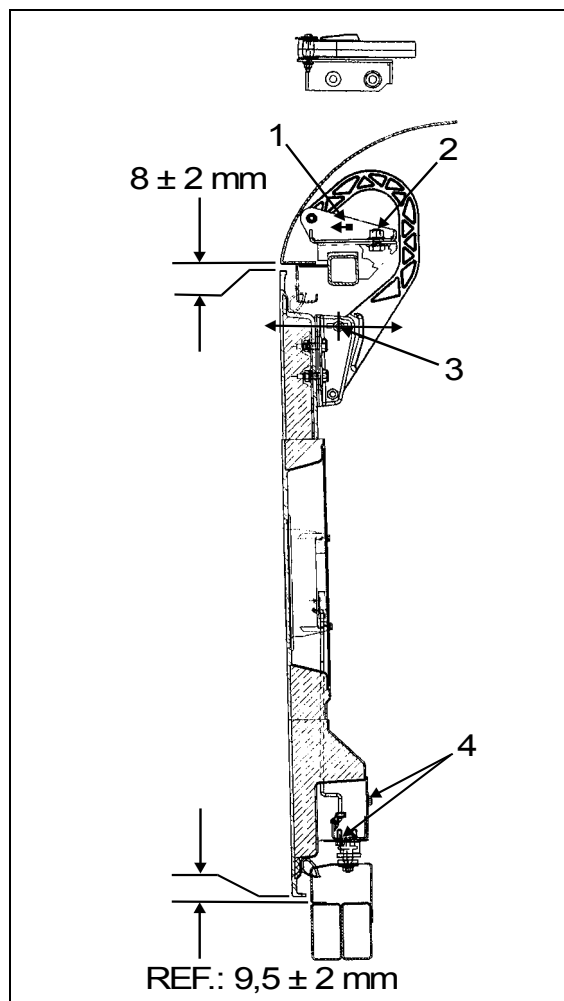

FIGURE 59: DOOR HINGE
2. Loosen nut (2, Fig. 59).
3. Move part (1, Fig. 59), as close as possible to exterior of coach, so as to have enough clearance for proper door opening.
4. Tighten nut (2, Fig. 59).
6. Adjust door panel to have the same gap space as neighboring panels or refer to figure 42 for specified gap space. Only if necessary, use the adjustment allowed by moving part 1, Fig. 59.
7. Loosen screws (5, Fig. 59) to allow the door to be shifted "UP or DOWN".